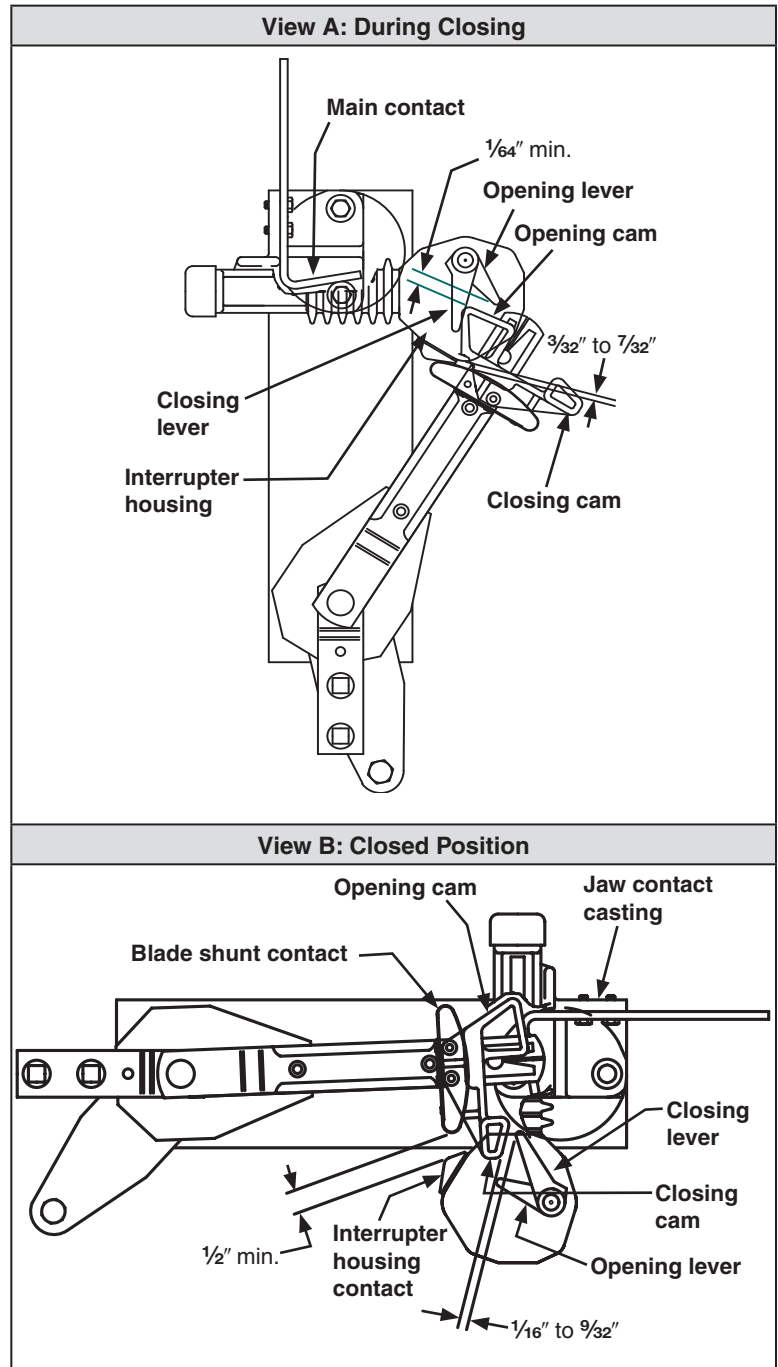

Figure 9. Operating checkpoints for switches rated 14.4 kV.
- c. Open the switch and place the blade in the position shown in Figure 9, View A. The following conditions should be met:
- f. Slowly close the switch. At the start of the closing stroke, the interrupter housing should be at the distance checked in Step 7c. above and should continue to make contact with the shunt contact during the duration of the closing stroke. This will ensure that the shunt contact and interrupter housing contact stay in the circuit long enough for the interrupter to break the circuit during the opening stroke. See Figure 9, View B.